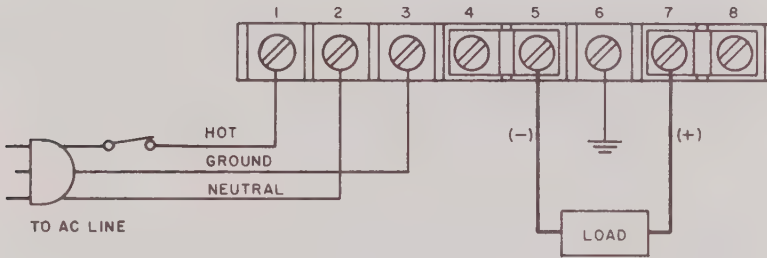

FIG. 2-1 BKF POWER SUPPLY, TERMINATIONS
- 2-4 All AC input and DC output connections are made at the eight (8) terminal barrier-strip as shown in FIG. 2-1.